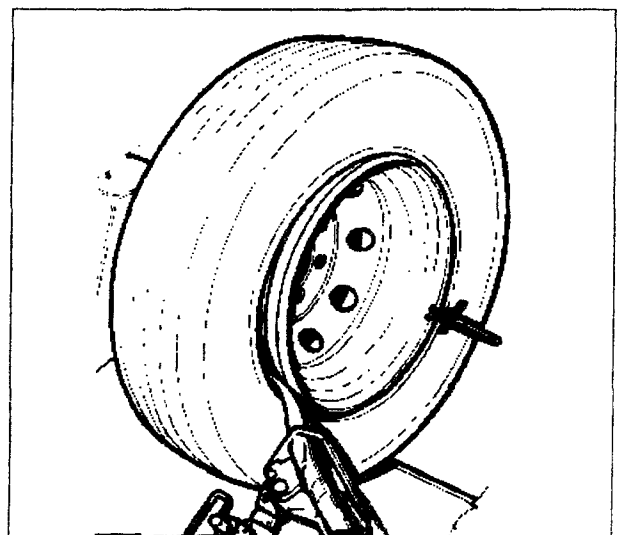

Fig.29
4. Turn the chuck *clockwise* until the tyre is completely mounted (Fig.29).